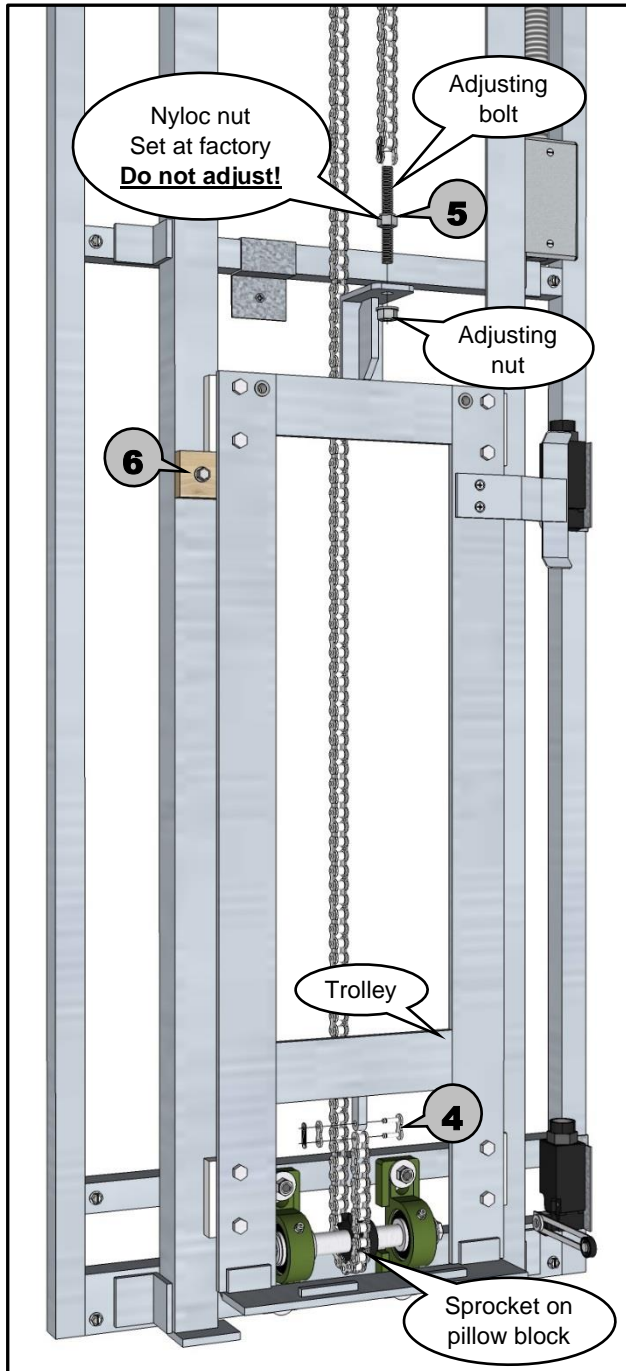

Figure 9
- 4** One end of the chain should hang down behind the trolley and be placed around sprocket on the pillow block. Then use provided master link, attached near the bottom of the trolley with a plastic tie, to connect chain to bottom end of trolley. (see Figure 9)
- 5** The other end of the chain with the adjusting bolt should hang down near the top of the trolley. Insert the threaded adjusting bolt, on the end of the chain, into the hole on the top of the trolley where the adjusting nut is tied on, and use the adjusting nut to secure the adjusting bolt to the trolley. Use a blade screwdriver or needle nose pliers to hold chain from twisting and tighten adjusting nut until Nyloc nut is tightly seated against trolley. **Do not adjust Nyloc!** (see Figure 9)
- 6** Some machines will have a trolley stop screwed to the track for shipping purposes, and it should be removed at this time. (see Figure 9)